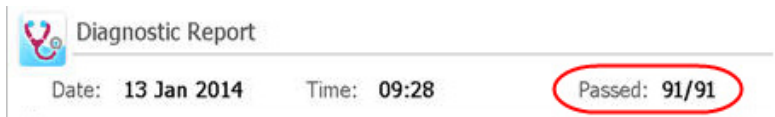

Figure 16 Diagnostic report banner, with the test results circled in red
- 9 Check the diagnostic report. The banner at the top of the report lists the number of tests that passed out of the total number of test performed (see Figure 16).